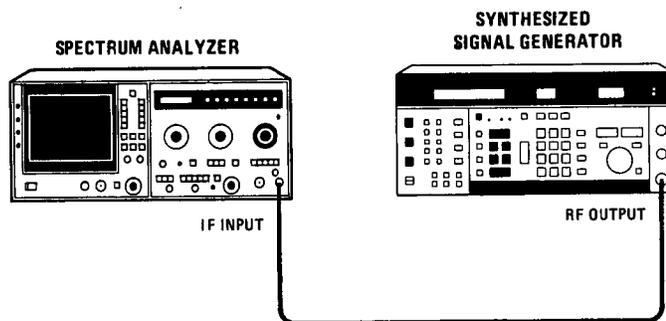

Figure 4-6. Resolution Bandwidth Selectivity Test Setup
2. Connect equipment as shown in Figure 4-6. Tune signal generator to 321.4 MHz and set output level to approximately -10 dBm.